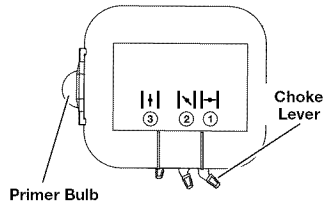

Fig. 9
3. Slowly press the primer bulb 10 times. Some amount of fuel should be visible in the primer bulb and fuel lines (Fig. 9).
4. Place the choke lever in **Position 1** (Fig. 9).
6. Place the choke lever in **Position 2** (Fig. 9).
9. While squeezing the throttle control, place the choke lever in **Position 3** (Fig. 9) and continue to warm for an additional 60 sec. The unit may be used during this time.